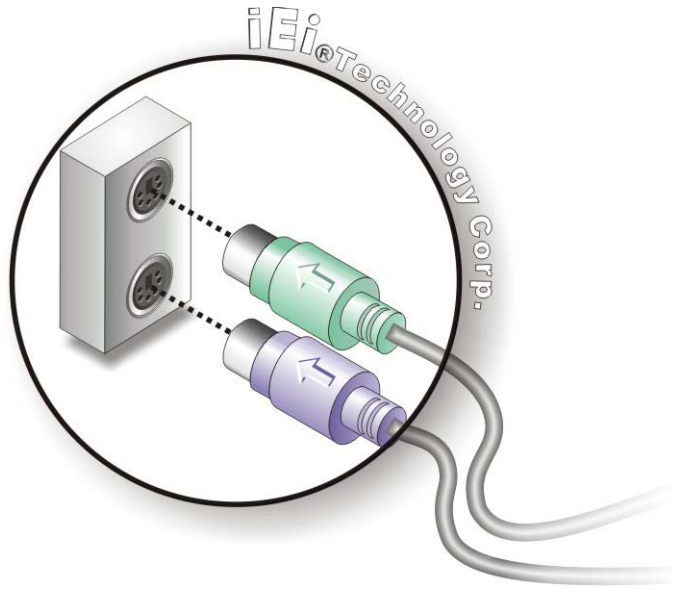

Figure 4-18: PS/2 Keyboard/Mouse Connector
Step 2: **Insert the keyboard/mouse connector.** Insert a PS/2 keyboard or mouse connector into the appropriate PS/2 connector on the external peripheral interface connector. See Figure 4-18.